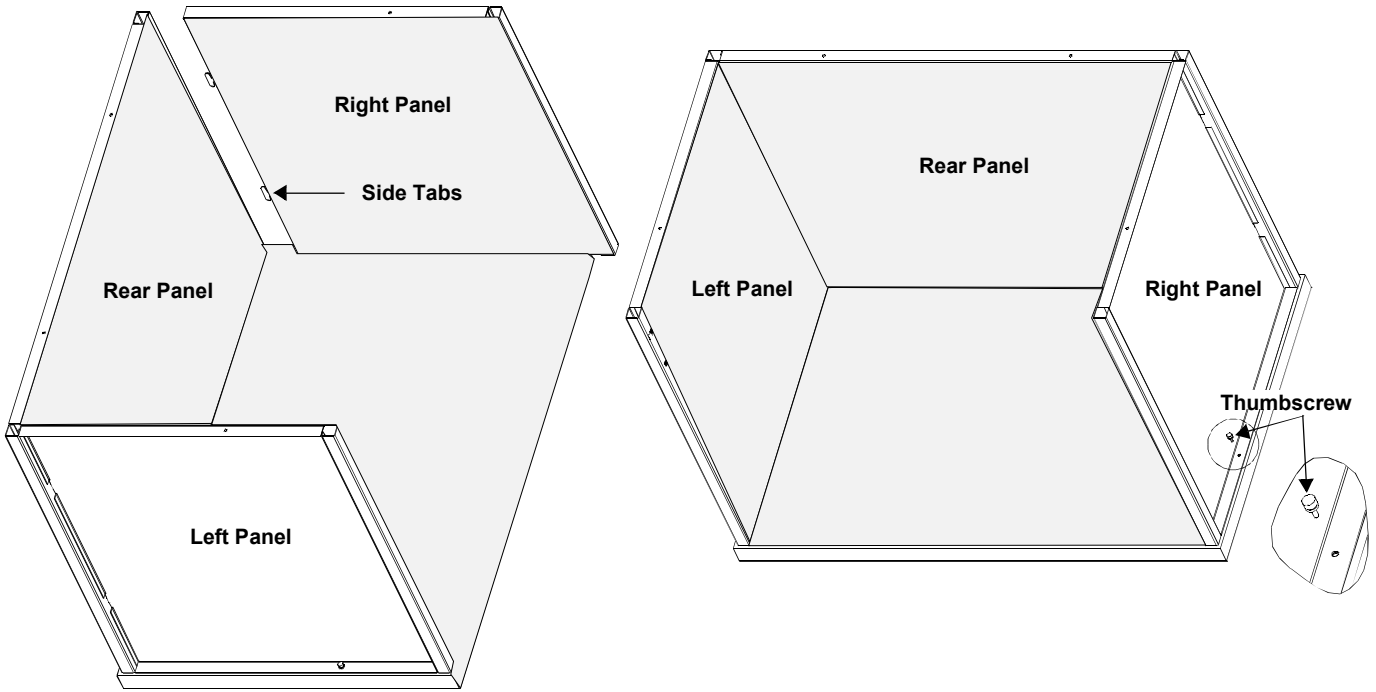

Figure 4. Right Panel Into Rear and Bottom Panel
6. Insert the Right Panel (#4) side tabs into the Rear Panel (#2). Fasten the Right Panel to the Bottom Panel by securing it with the thumbscrew, as shown in Figure 4.